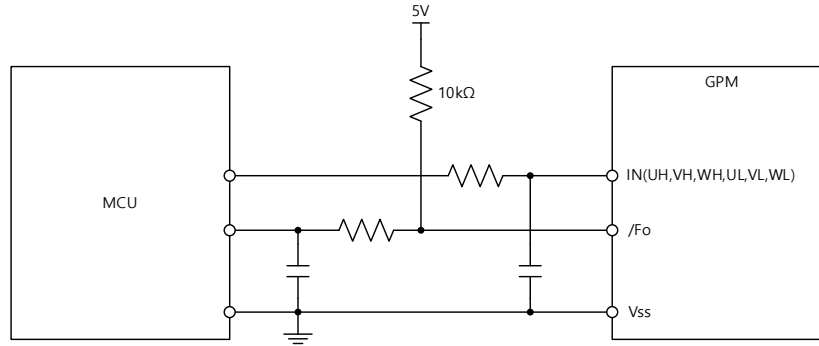

Figure 6. Recommended MCU I/O Interface Circuit
2. Fault output is an open-drain type. This signal line should be pulled up to the positive side of the MCU or control power supply with a resistor that makes I_{FO} up to 1 mA. Please refer to Figure 6.
3. Input signal is active-HIGH type. There is a 5 k Ω resistor inside the IC to pull-down each input signal line to GND. RC coupling circuits should be adopted for the prevention of input signal oscillation. RC time constant should be selected in the range 50–150 ns (recommended R = 100 Ω , C = 1 nF). Please refer to Figure 6.